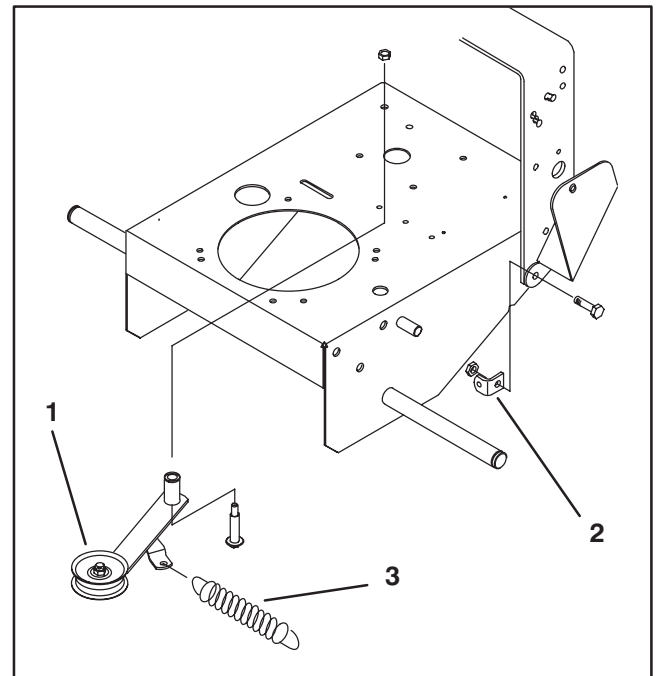

Figure 3
6. Mount idler assembly to underside of frame with a shoulder bolt and locknut (Fig. 3).
8. Using new capscrew and locknut previously removed, mount spring anchor and support bracket to frame (Fig. 3).